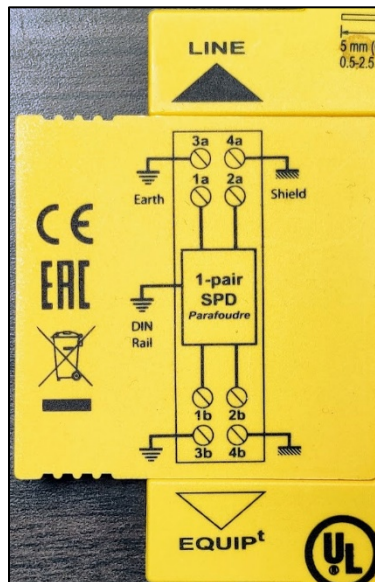

Figure 4 Wiring Diagram on the RS232 SPD
- a. (RS232) Insert the black conductor to the terminal with the shield symbol, the white conductor to the 1b terminal, and the red conductor to the 2b terminal (Figure 4).
- a. (RS232) Attach the ground signal to the terminal with the shield symbol, the TMU TX signal to the 1a terminal, and the TMU RX signal to the 2a terminal (Figure 4).